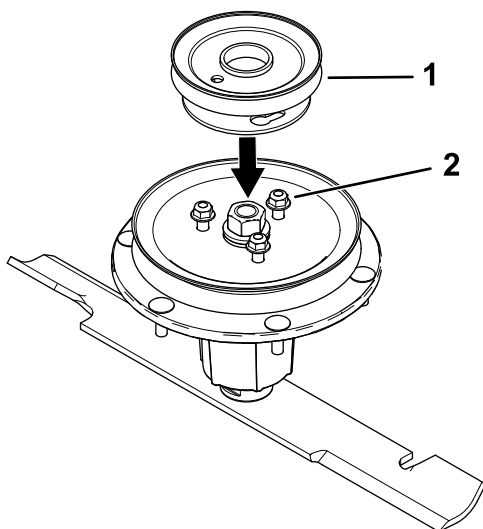

Figure 10
- Align the new pulley assembly so that the openings fit over the nuts (Figure 10).